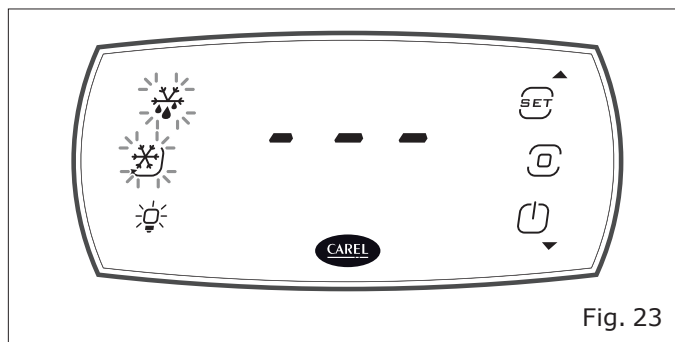

Fig. 23
- Press the "Program" icon again (2) for 3 seconds the display unlocks and enters direct activation of the actuators/functions mode, displaying three dashes "---" in sequence ("Fig. 23") and the command icons (if the icons are fixed the load/function is active, if they flash it is not active).